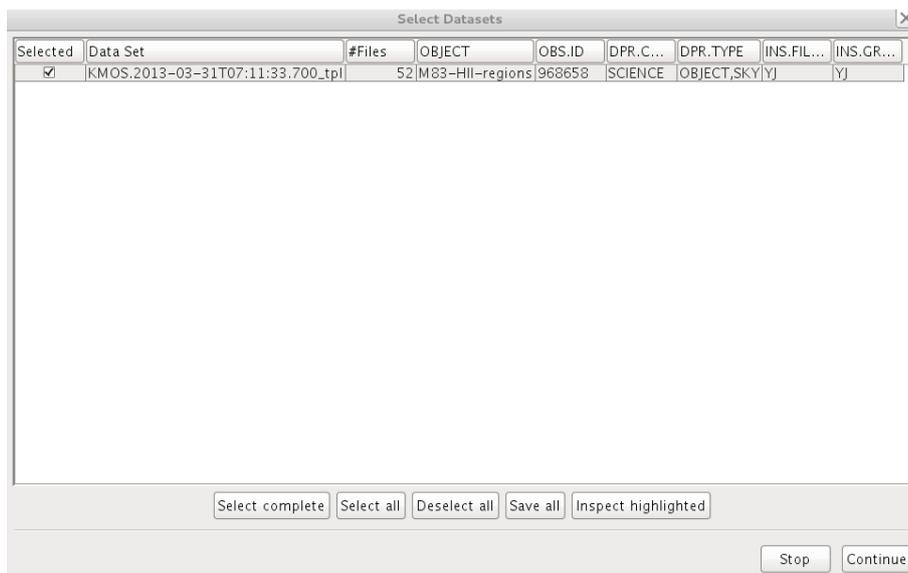

Figure 5.3: The "Select Datasets" pop-up window.
7. The `Data Set Chooser` actor will be highlighted next and will display a “Select Datasets” window (see Figure 5.3) that lists the `DataSets` along with the values of a selection of useful header keywords6. The first column consists of a set of tick boxes which allow the user to select the `DataSets` to be processed, and by default all complete `DataSets` are selected.